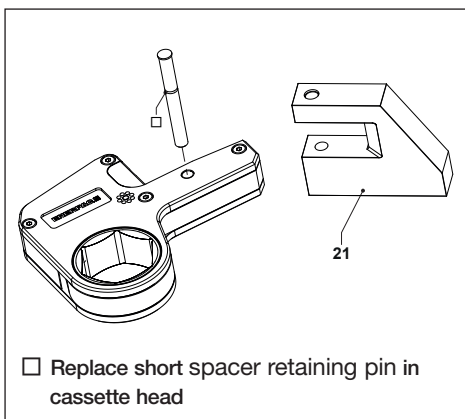

Fig. 7
3.4.1 To Attach the WRP Series Reaction Paddle (Fig. 7)
- Install the cassette in to the cut out in the WRP Series reaction paddle (21) aligning the holes in the paddle with the hole in the cassette.